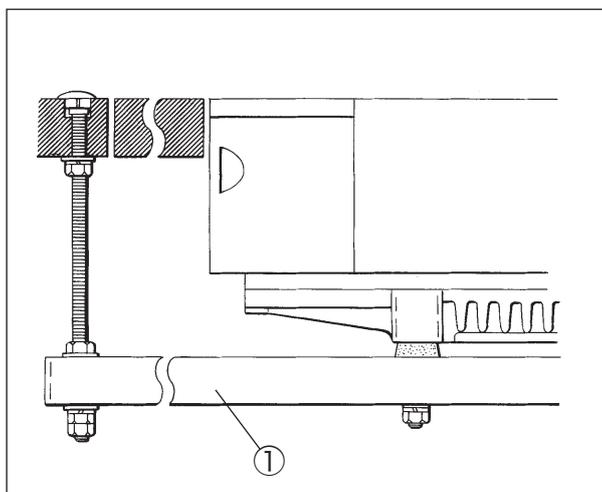

Fig. 2-8
Install a machine correctly referring to Figs. 2-8 and 2-9. Set the screws ② in the supporting board ① and cover the screws ② with the rubber cushions ③. Fix the the supporting board ① to the machine table and install a machine securely on the rubber cushions ③.